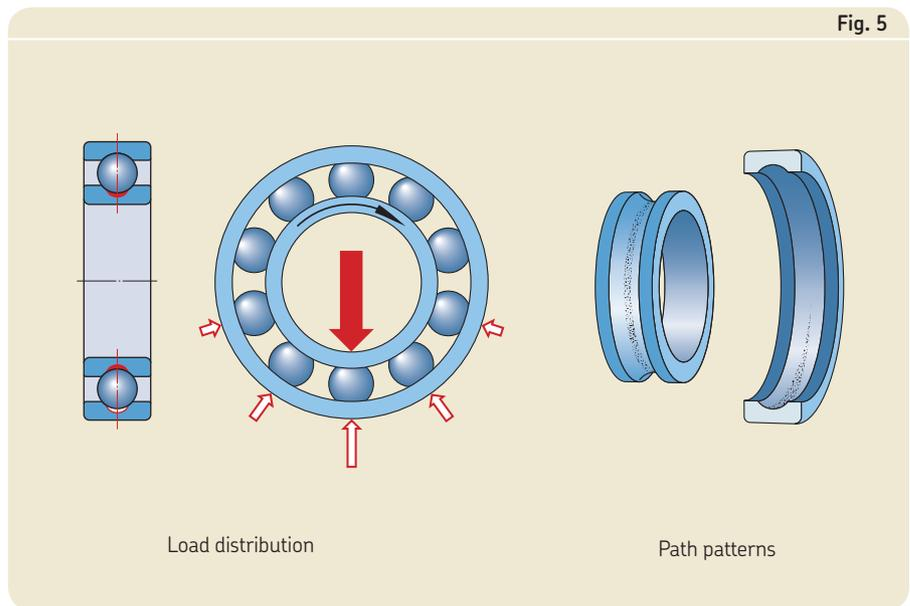

Fig. 5
Fig. 5 illustrates how an applied unidirectional and constant radial load acting on the rotating inner ring of a bearing is distributed to the stationary outer ring by the rolling elements.
The path pattern is identical to **fig. 5**.
- Under pure radial load, only a small section (approximately 150°) of the outer ring will have a path pattern in its centre (→ **fig. 5, page 34**).